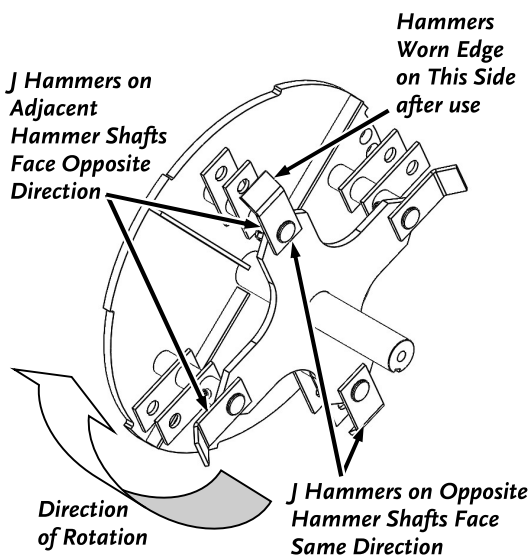

Figure 20
- Note:** There is 1 J Hammer and 1 Flat Hammer (PREMIER 310) and 2 Flat Hammers (PRO 410) on each Hammer Shaft. J Hammers are oriented in the opposite direction of those on adjacent Hammer Shafts (**Figure 20**).